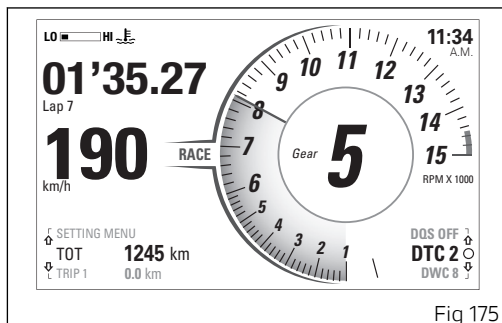

Fig 175
Every time the FLASH button (3) is pressed again, the display shows the number and time of the just-ended lap for 1 second, both flashing for 1 second, then they remain steady on for further 5 seconds. If lap time is the Best Lap, the number and time of the just-ended lap will both be shown flashing for 6 seconds. Then the timer and the number of the new current lap (Fig 175) are displayed again.